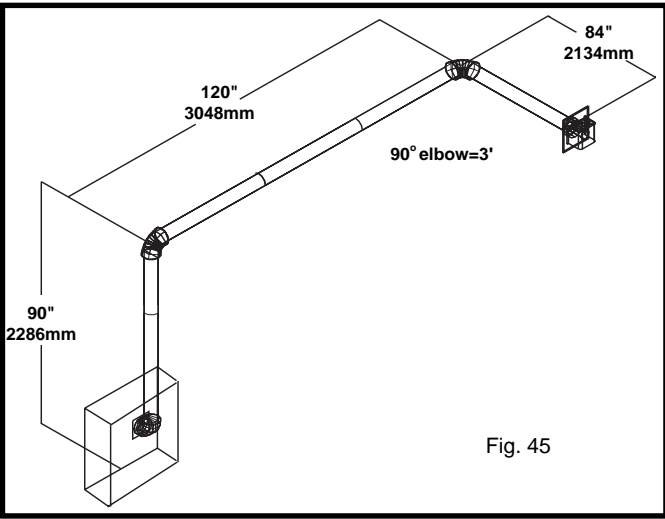

Fig. 45
If a 90 degree elbow is used in the horizontal vent run (level height maintained) the maximum horizontal vent length is reduced by 36 inches. Fig. 45. This does not apply if the 90 degree elbows are used to increase or redirect a vertical rise.
3. Select the indicated dimension, and position the fireplace in accordance with same. (See examples Fig. 45).